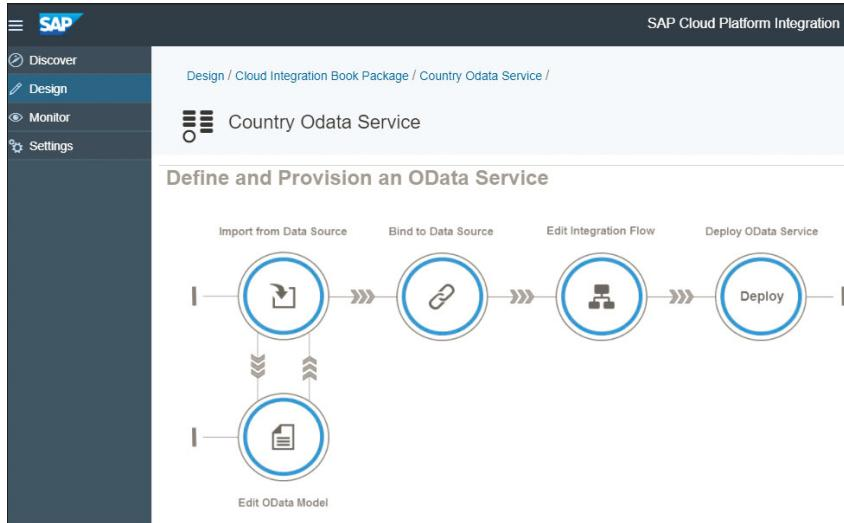
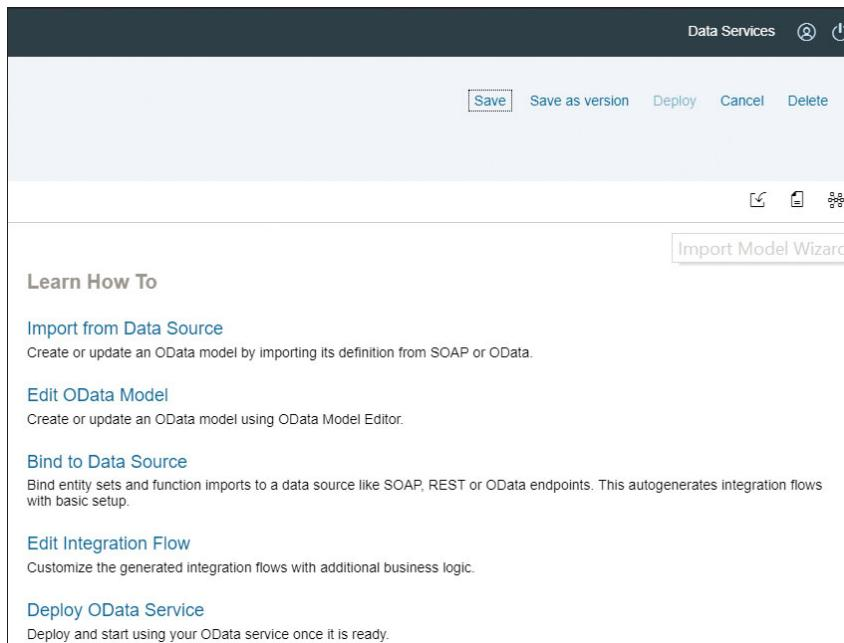

Figure 4.98 Main Landing Page to Define and Provision an OData Service A
Figure 4.99 Main Landing Page to Define and Provision an OData Service B
You then get redirected to a page that looks like Figure 4.98 and Figure 4.99. This is the landing page and the main place to perform all tasks related to defining and provisioning an OData Service.
As Figure 4.98 and Figure 4.99 show, this page lists the activities that need to be performed for the definition of an OData service. These activities were also listed in the beginning of Section 4.5.2, and we're going to explore them in detail in the next sections.
1. Click the import model wizard button  shown earlier on the right-top corner of Figure 4.99.